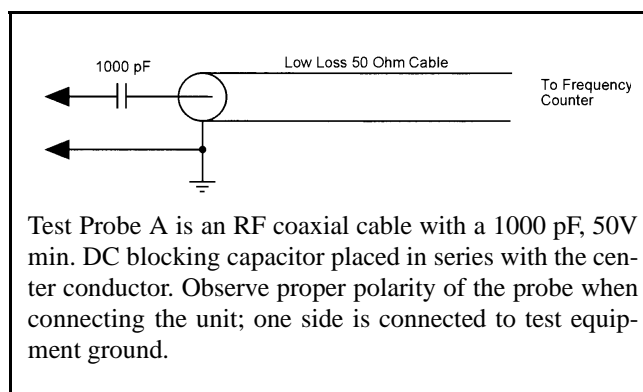

Figure 6 - Test Probe A
4. With a frequency counter connected to the output of TEST PROBE A (see Figure 6), hold TEST PROBE A across **R593** and adjust the trimmer capacitor inside **Y501** for a frequency on the frequency counter that is within ± 100 Hz of the transmit frequency.